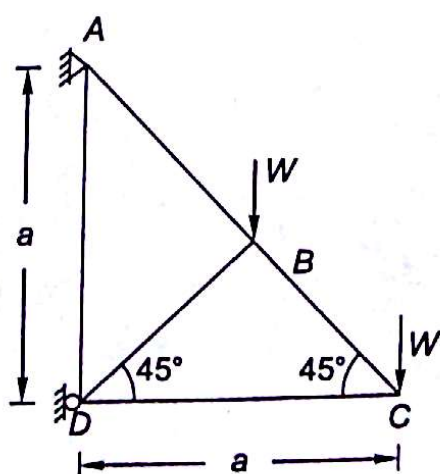

Fig. 4.32
- 4.3 A truss $ABCD$, hinged at A and roller supported at D carries vertical loads W each at joints B and C . What is the horizontal component of reaction at A (Fig. 4.32)?